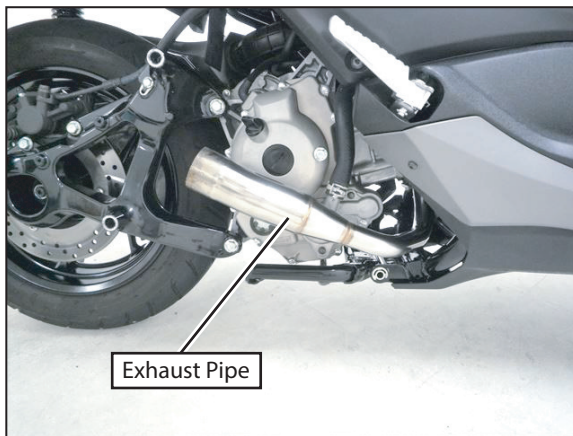

FIG. 2
- 3) Replace stock gasket at exhaust port of engine with new one. Then, mount Exhaust Pipe with stock nuts (See Fig. 2 & 3). Tighten nuts by hand only at this stage.